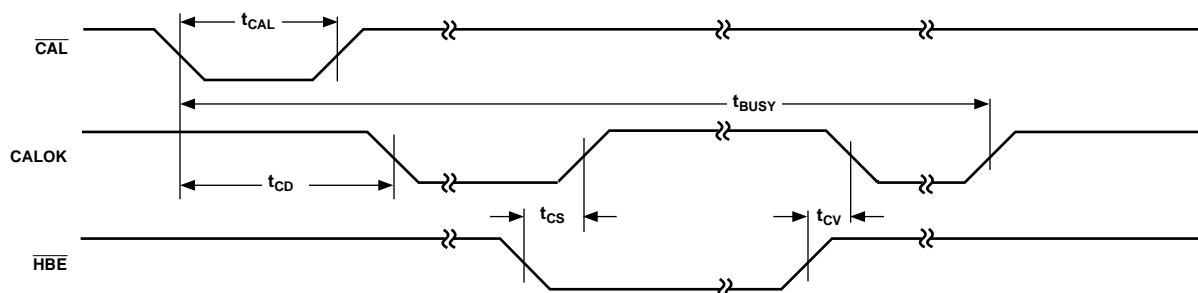

Figure 1d. Calibration Timing
(Figure 1d)
**Self-Calibration** is initiated by strobing the  $\overline{\text{CAL}}$  pin low (refer to Figure 1d). The CALOK pin will go low and the MUXOUT pin is connected to MUXIN. During calibration, the second-rank latch is transparent to allow the CALIBRATION SEQUENCER to control the MAIN DAC. After successful completion of calibration, the input to the second-rank latch is switched to the first-rank latch, the DAC is loaded with the contents of the first-rank latch, VOUT settles to the value represented by the data in the first-rank latch, then CALOK will go high, and MUXOUT is switched to VOUT. Therefore the user should program the DAC with the desired data before initiating the calibration. The second rank latch, controlled by LDAC, is a transparent latch. As long as LDAC remains high, changes in the first rank latch will be reflected in the DAC output immediately.